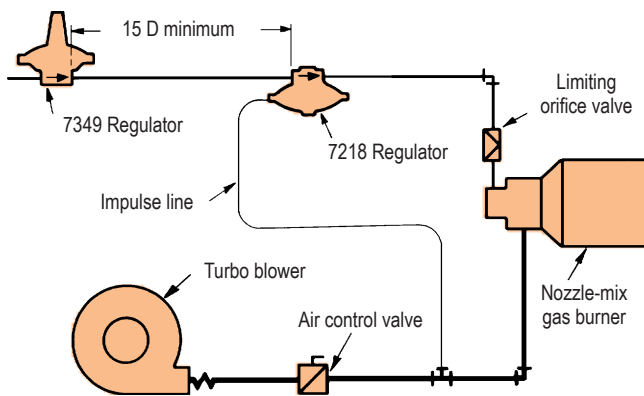

Figure 2. Pipe Arrangement for 7349 and 7218 Regulators.
**Installation.** Mount in horizontal lines with the adjustment spring either straight up or straight down (spring down mounting produces less outlet pressure because of the weight of internals). Figure 2 shows a 7349 Regulator with a cross-connected 7218 Regulator. To avoid interaction, allow a run of 15 or more pipe diameters between the regulators.